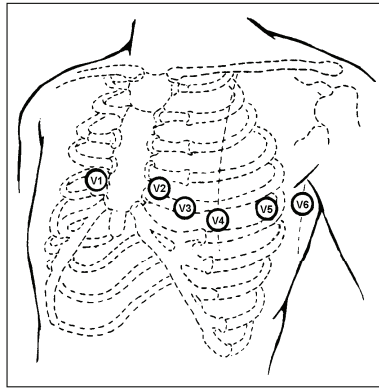

Figure 3-1. Position the electrodes
- b. Position the electrodes, being careful to place them over the intercostal spaces and not directly over the ribs. Refer to Figure 3-1.